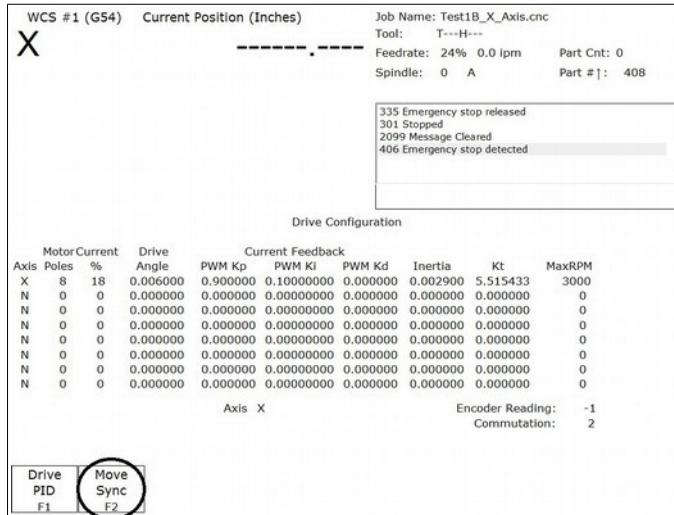
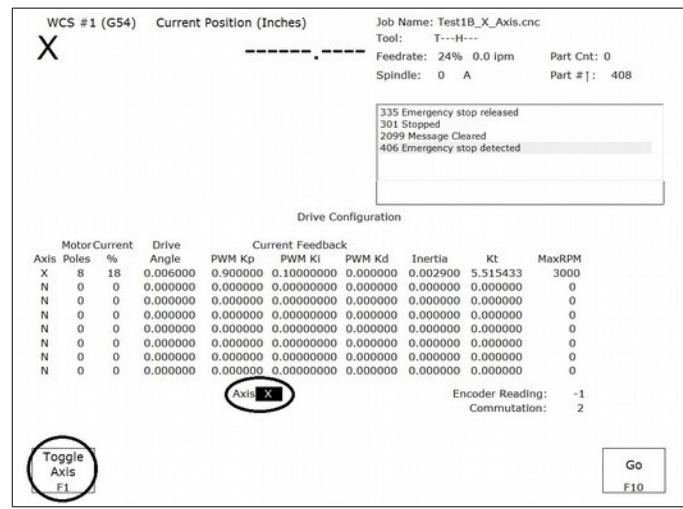

Figure 2. Drive Configuration Menu
Figure 3. Move Sync
7. Go to the drive configuration menu by pressing **F8-Drive** as shown below in Figure 2.
8. Press **F2-Move Sync** as circled in Figure 2. The axis selected is shown underneath PWM Kp as circled in Figure 3. If you are not on the correct axis, press **F1-Toggle Axis** until the correct axis label is on the screen. Finally press **F10-GO**. The shaft should rotate. The first move sync rotation may cause the motor to jerk or move roughly. Move sync a few more times by pressing **F2-Move Sync** then **F10-GO** repeatedly. All move syncs after the first sync should cause the shaft to rotate smoothly. **If the motor oscillates wildly, moves erratically, or makes loud unusual noises, kill the motor power immediately!**